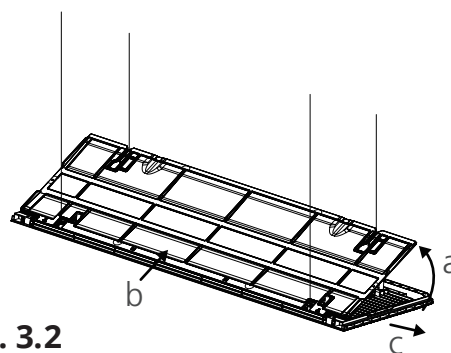

Fig. 3.2
4. Remove the filter from the air intake grille by following these steps (Refer to Fig. 3.2):